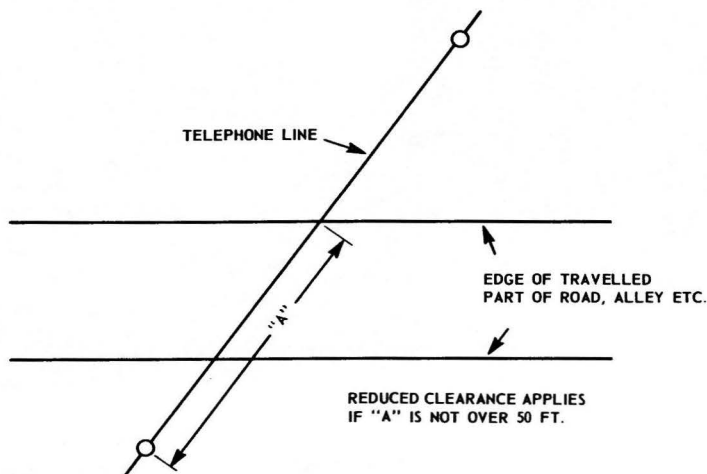

Fig. 1
1.04 Note that clearance requirements shown for wire overhanging the traveled part of public roads are considerably larger than the clearances required where no such overhang exists. Note also that clearances for wire crossing alleys, roads and driveways show one set of values for general use and a second somewhat lower set of values for use when one pole is located within 50 feet of the far edge as shown in Fig. 1.
1.05 Multiple drop wire must be installed with relatively large sags. Hence it will generally be advantageous to locate poles and wire runs so that the middle of the span will **not** be above the traveled part of the road, alley or driveway. This will often be the case at crossings when the far edge of the road, alleys, etc, is 50 feet or less from the pole. (See Fig. 1) When this condition exists, it may be possible to base the height of pole attachment on something less than 100 per cent of the midspan. The following table shows the percentage of midspan sag to be used in determining the height of pole attachment when the 50-foot criterion applies. This procedure should be ignored for spans less than 145 feet.